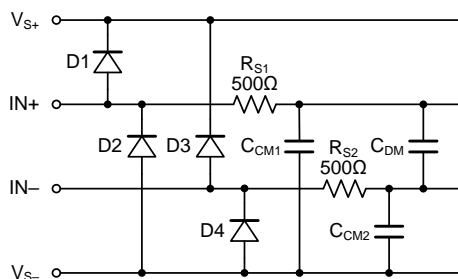

Figure 1. Input EMI Filter and Clamp Circuit
Figure 1 shows the input EMI filter and clamp circuit. The LTC8741/8742/8743/8744 comparators have
Infrared (IR) communication is inherently immune to RF interference as long as there is a line-of-sight path between the transmitter and the receiver. It is also one of the lowest cost communication schemes. This makes it a good choice for implementing wireless communications in applications such as utility metering. A common system topology to extend battery life is to use a power efficient IR receiver analog front end (AFE) that is always on and wakes up the host only when there is a valid IR signal detected as shown in Figure 1.
Figure 1 shows the IR receiver system block diagram. The host MCU is normally in the shutdown mode (during which the quiescent current is less than 1 μA) except when data is being transferred.